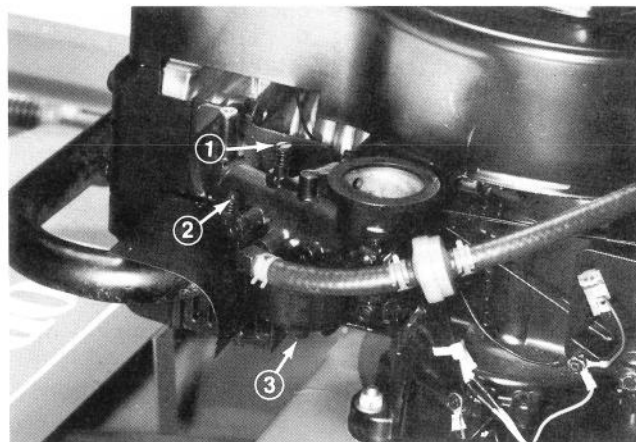

Figure 19
1. Needle Valve (Fig. 19) — Close valve by gently rotating it clockwise.
2. Rotate — open — the needle valve 2 turns counterclockwise (Fig. 19).
4. Rotate needle valve (Fig. 19) clockwise, 1/8 turn at a time, until engine starts to lose speed. Let engine react to each 1/8 turn setting.
5. Rotate needle valve (Fig. 19) counterclockwise — out — 1/8 turn at a time, until engine first runs rough. Let engine react to each 1/8 turn setting.
6. Rotate needle valve (Fig. 19) clockwise — in — very slowly until engine starts to run smoothly. This setting, under no load, may be slightly rich; however; the slightly rich setting will assure proper operation when engine is under load.